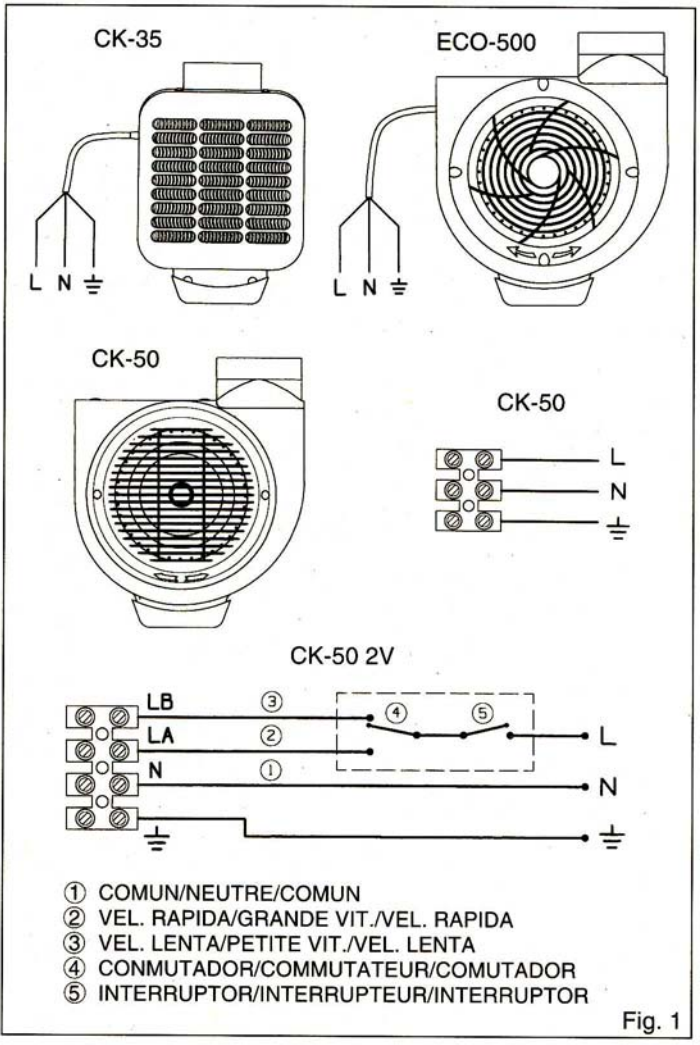

Fig. 1
- The extractors CK-35 and ECO-500 comes with the lead out for connection to the mains, you can connect them to the mains using a normal plug correctly sized to match the electrical load. The extractors CK-50 and CK-50 2V are supplied with terminal box. For each model, follow the corresponding wiring diagram shown fig. 1.